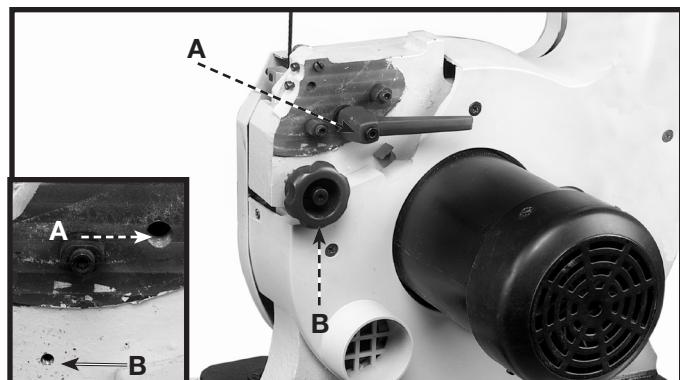

**Fig. 8**
4. Place a 3/8" flat washer on the screw (D) Fig. 8, followed by M8 lock washer, then thread a M8 hex nut on screw and tighten securely. Repeat this process for the three remaining holes.